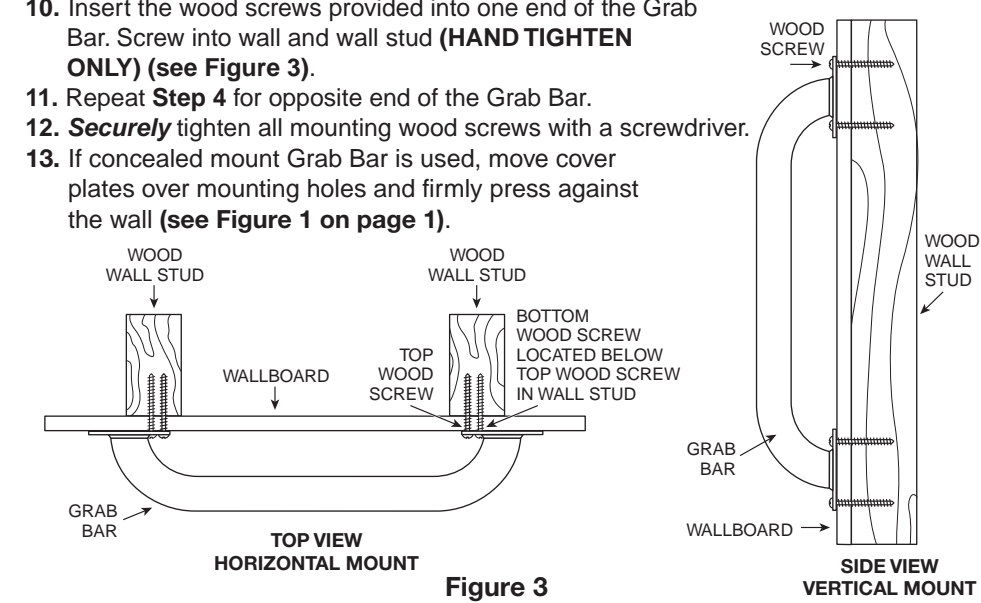

Figure 3
10. Insert the wood screws provided into one end of the Grab Bar. Screw into wall and wall stud (**HAND TIGHTEN ONLY**) (see Figure 3).